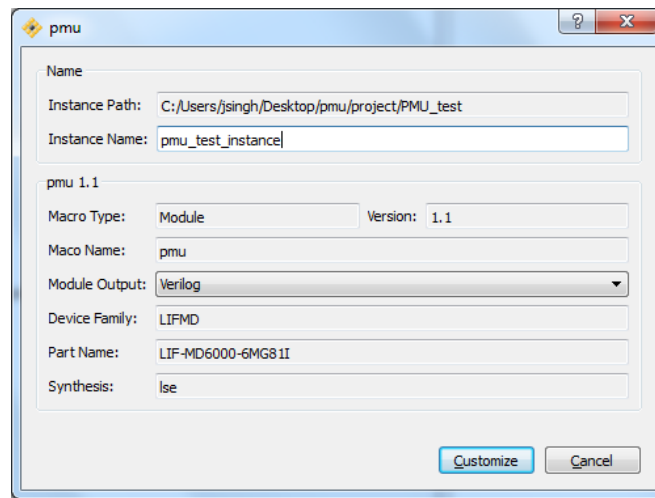

Figure 2.8. PMU Instance Name Options Window
4. Double click on **pmu** to open another window (Figure 2.8) that requires you to provide an instance name (we use *pmu_test_instance* as our instance name for example),